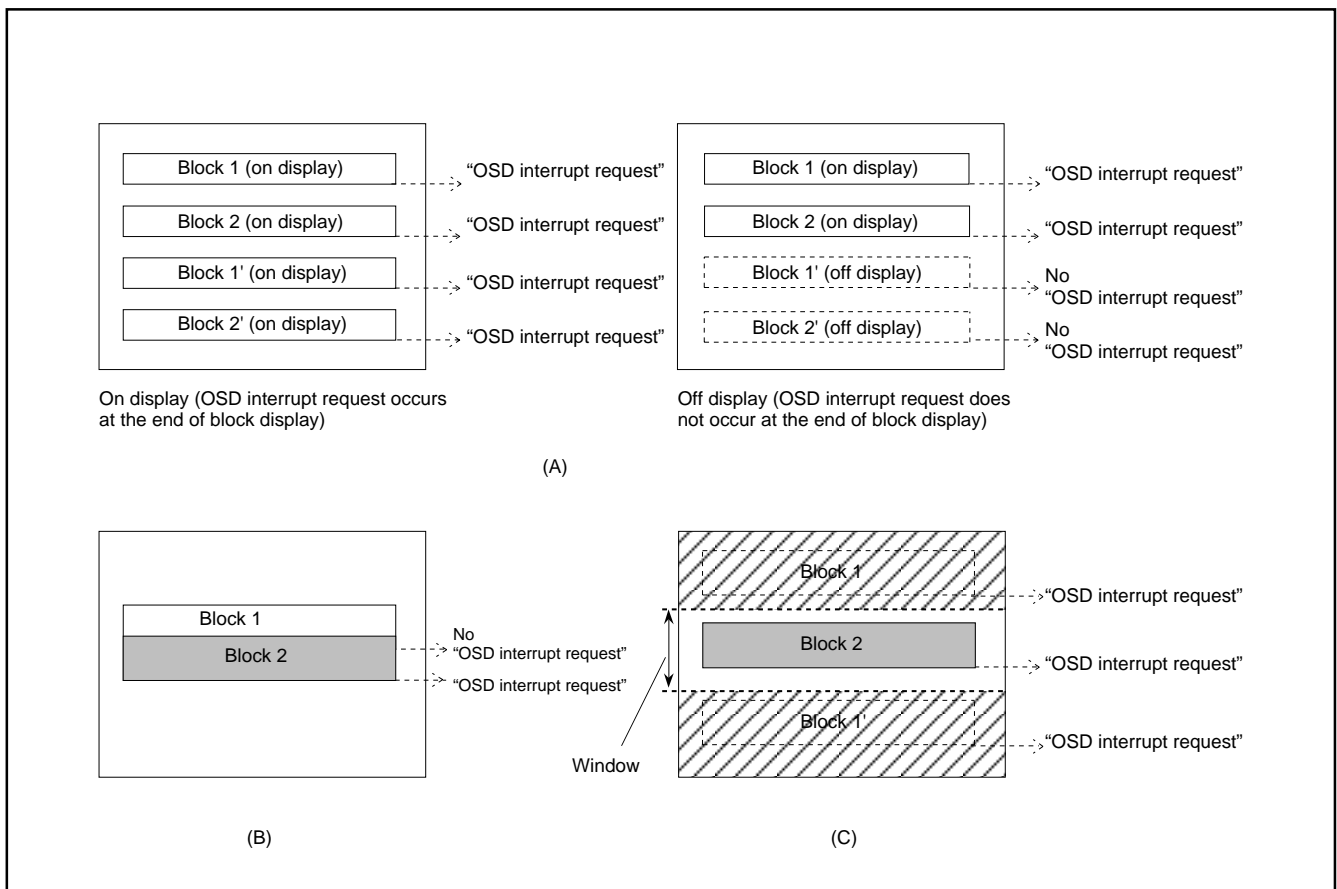

Fig. 8.10.26 Note on Occurrence of OSD Interrupt
- Notes 1:** An OSD interrupt does not occur at the end of display when the block is not displayed. In other words, if a block is set to off display by the display control bit of the block control register *i* (addresses 00F916 and 00FA16), an OSD interrupt request does not occur (refer to Figure 8.10.26 (A)).
- 2:** When another block display appears while one block is displayed, an OSD interrupt request occurs only once at the end of the another block display (refer to Figure 8.10.26 (B)).